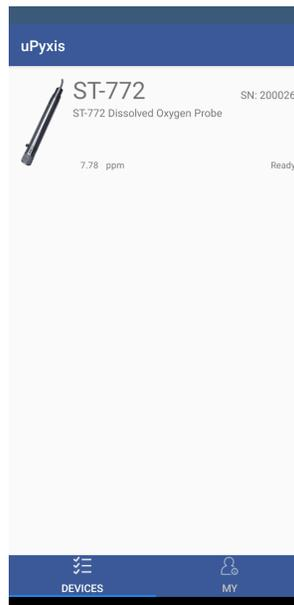

Figure 6.
3. If the connection is successful, the ST-772 Series and its Serial Number (SN) will be displayed (Figure 6).